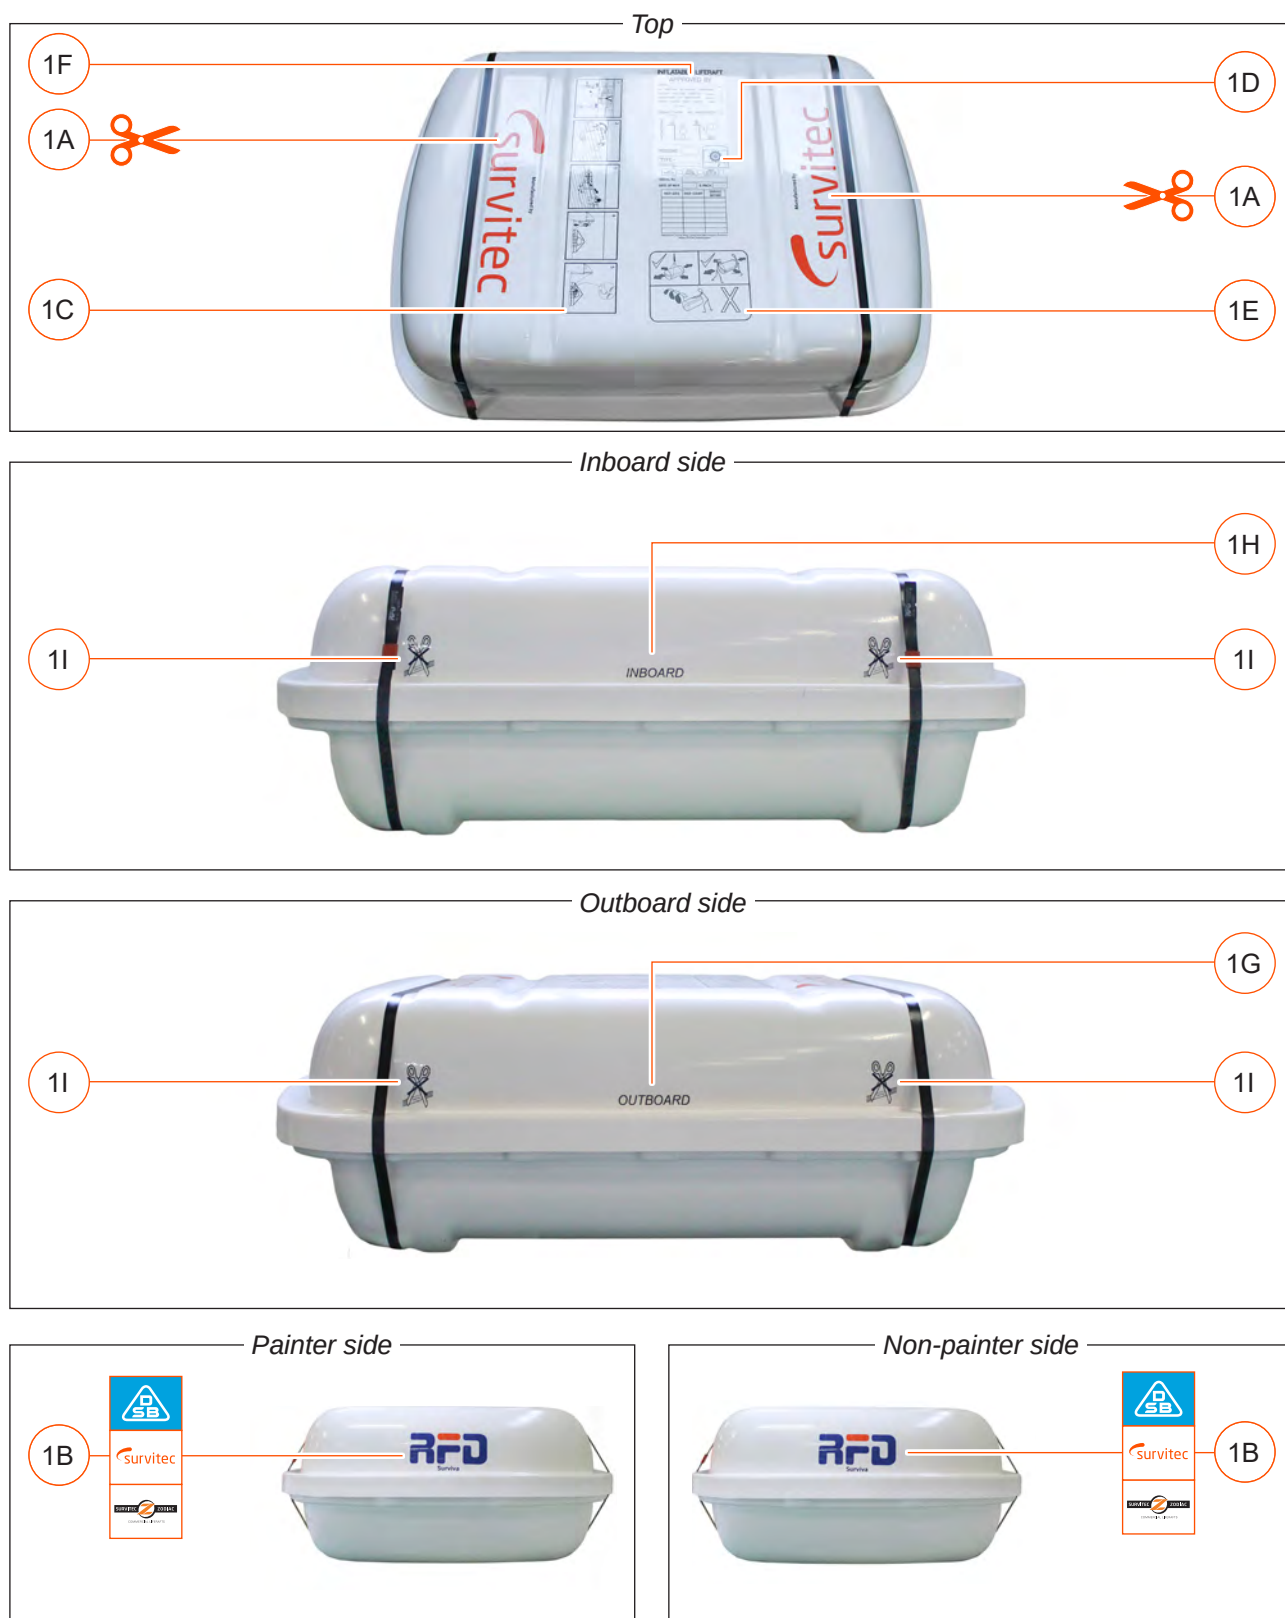

Figure 13
- Mk 18 size 1. Refer to **Figure 13** for label positions.